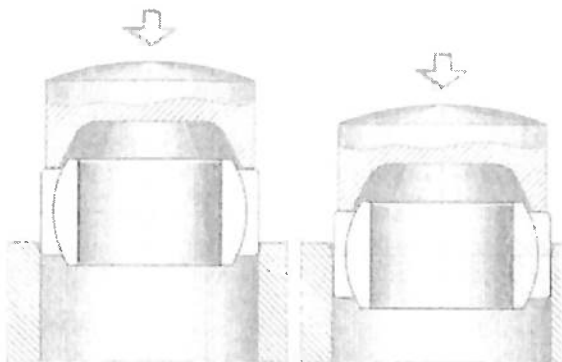

Fig. 3 - Fitting forces and bearing ring to be fitted
- Fitting forces must always be applied to the inner ring (Figure 3)